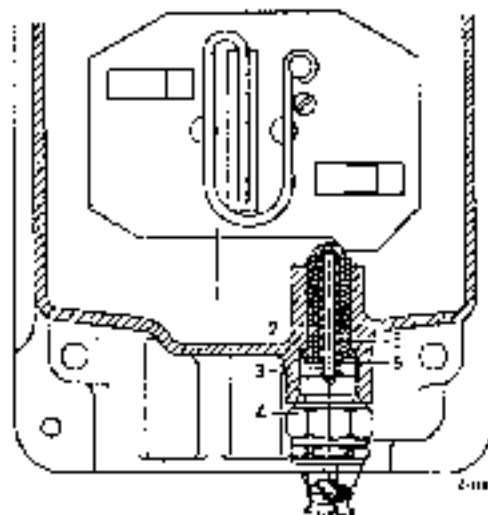

Fig. 26-4/5
8. Screw in the hexagon socket screw (8) together with lock washer (7) and tighten (see Fig. 26-4/4).
9. Install the guide plate. The plate must be easy to move. First install the washer and then the spring washer. Screw in the nuts and lock them by compressing their collars at the top (see Fig. 26-4/2).
Note: When installing the guide plate (1) make sure that the plate has a spring riveted to it (guide plates without spring are only used for transmissions with steering wheel shift system) (Fig. 26-4/5)
10. Install the bar (6) and the pressure spring (3) for the reverse gear stop as well as the pressure pin (2) for the reversing light switch in the transmission case cover and screw in the reversing light switch (4) (Fig. 26-4/5).